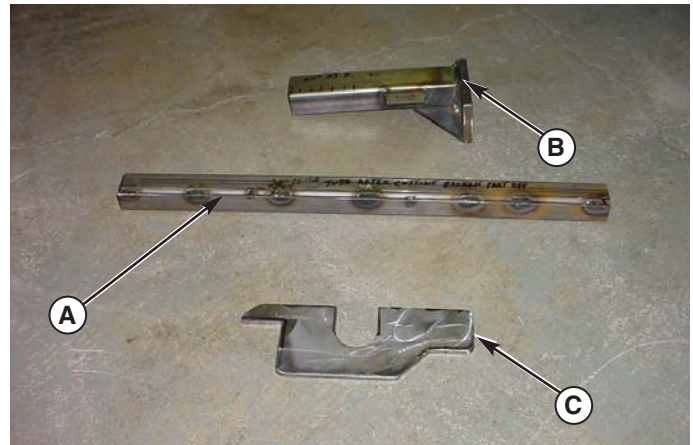
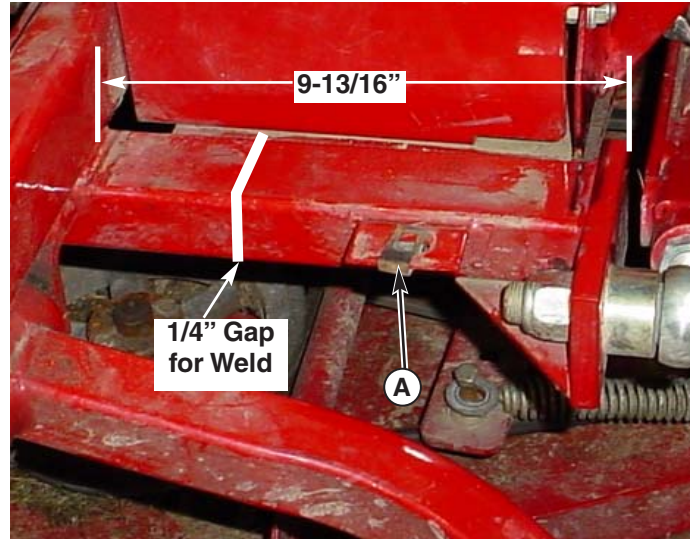
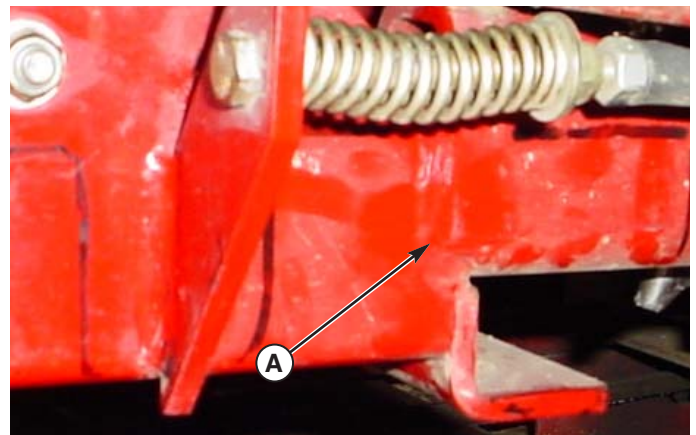
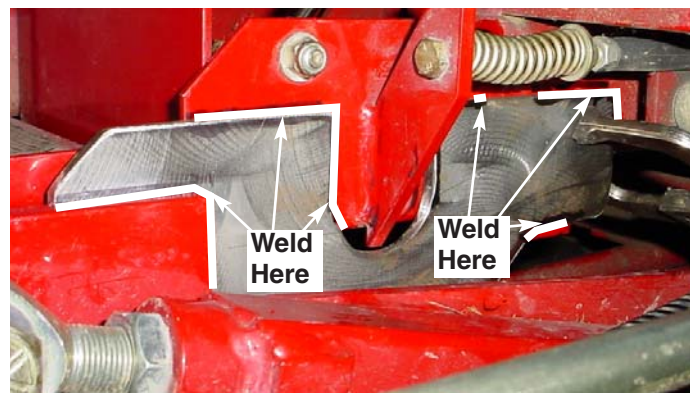

Figure 1. Support Tube, Support Bracket, and Repair Section
Figure 4. Measure and Trim Repair Section
Figure 5. Grind Weld Flush
Figure 6. Weld Support Bracket
5. Slide the new support tube (A, Figure 4) inside of the frame cross member until the support tube bottoms out against the other end of the frame cross member.
6. Refer to Figure 4. Trim the frame repair section (B, Figure 1) so that the end of the repair section measures 9-13/16 from the outside of the frame rail allowing for a 1/4" gap between cut end of the frame cross member and the end of the repair section for weld.
8. Clamp the support bracket (C, Figure 1) in place. The weld shown in Figure 5 may have to be ground flush to allow for the support bracket to set correctly. Weld the bracket to the repair section and to the frame as shown in Figure 6. Remove the clamp.
10. Install the body clip (A, Figure 4) into slot in the repair section. Reinstall the 3/4" hardware securing the rear suspension arm to the repaired frame.